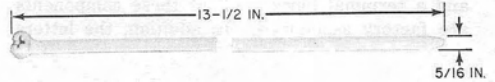

Fig. 6—WE-1 Cable Tie
- (e) **WE-1 Cable Tie (Fig. 6):** Used to secure the cables to the ground bracket assembly.